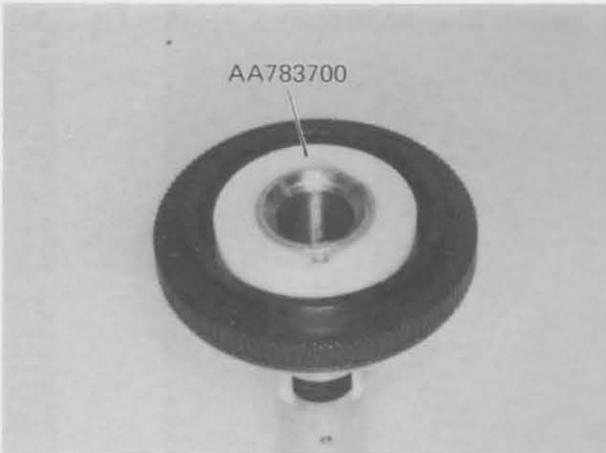

Fig. 4-3
- c) Apply Grease OT2006 to Washer AA783700 and reassemble it. (See Fig. 4-3)